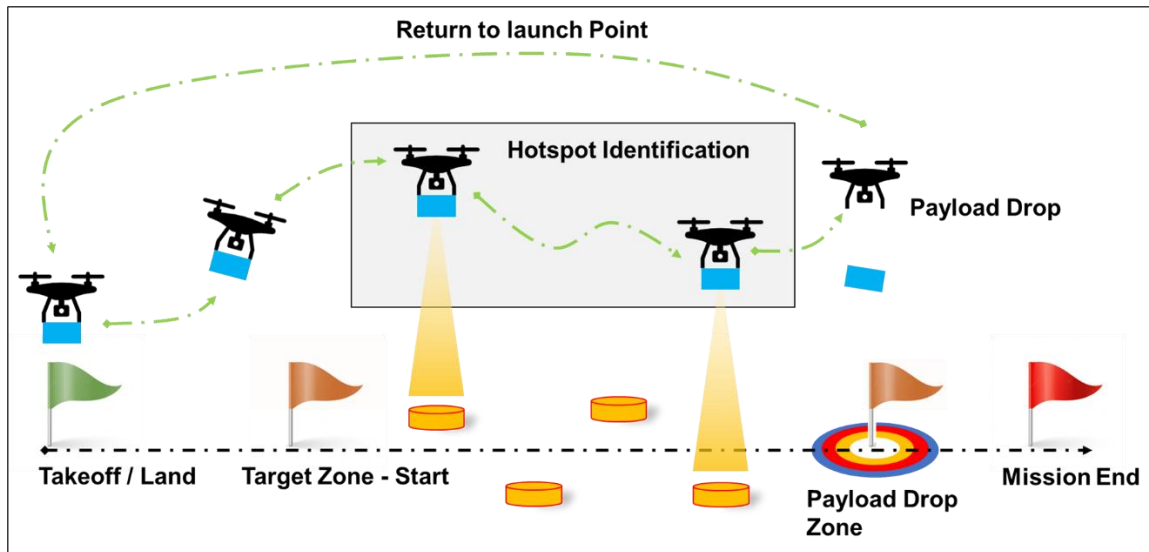

Figure 2 Mission Profile.
- with a payload of 200 grams from the take-off point to the target point manually by means of tele-operation i.e., using a Radio Controller and dropping the payload at the specified target point. The flight course is shown in Figure 2